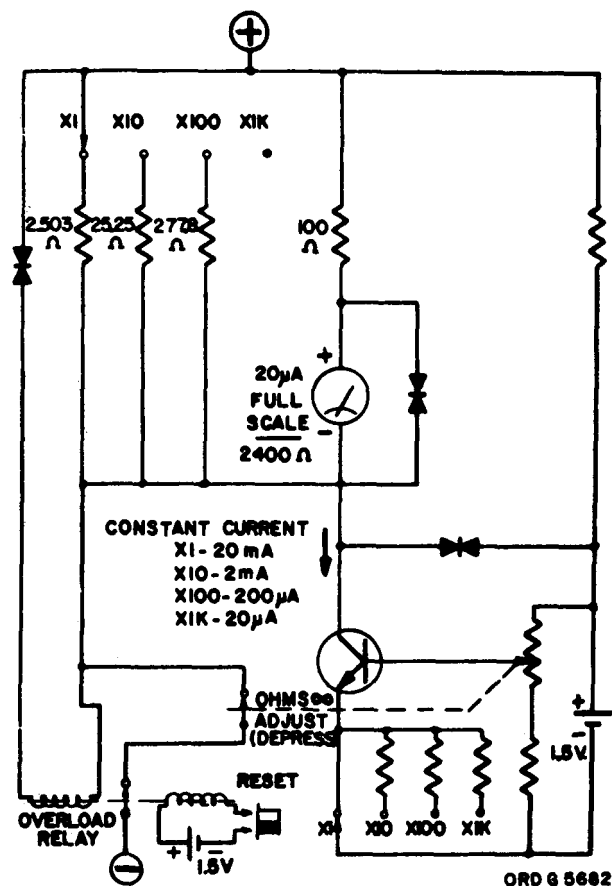

Figure 6. Simplified schematic diagram of search ohmmeter X1, X10, X100, and X1K ranges.
a. The simplified schematic of the resistance measurement systems appear in figures 6 through 8.